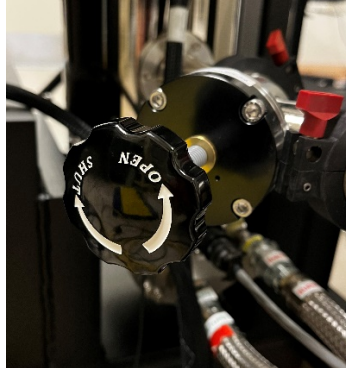

Figure 4. Vacuum isolation valve
- Turn off the vacuum isolation valve shown in **Figure 4** in the clockwise direction to cut off the nitrogen purge gas flow into the vacuum pump.
- **Close the vacuum isolation valve shown in Figure 4, while keeping both the CCR and vacuum pump running.**